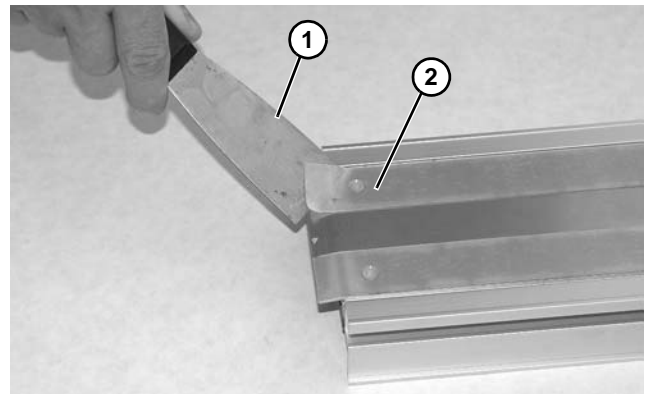

Figure 45
2. With a putty knife (**Figure 45, item 1**), start by raising edge of wear strip (**Figure 45, item 2**).